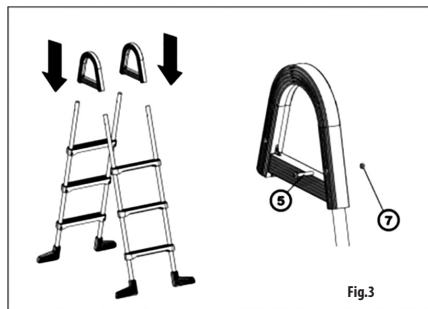

Fig. 3
Slide the assembled ladders into the arcs (2) (Fig. 3) and secure them with appropriate screws (5) taking care of their proper orientation (screw heads shall face outwards of the treads).